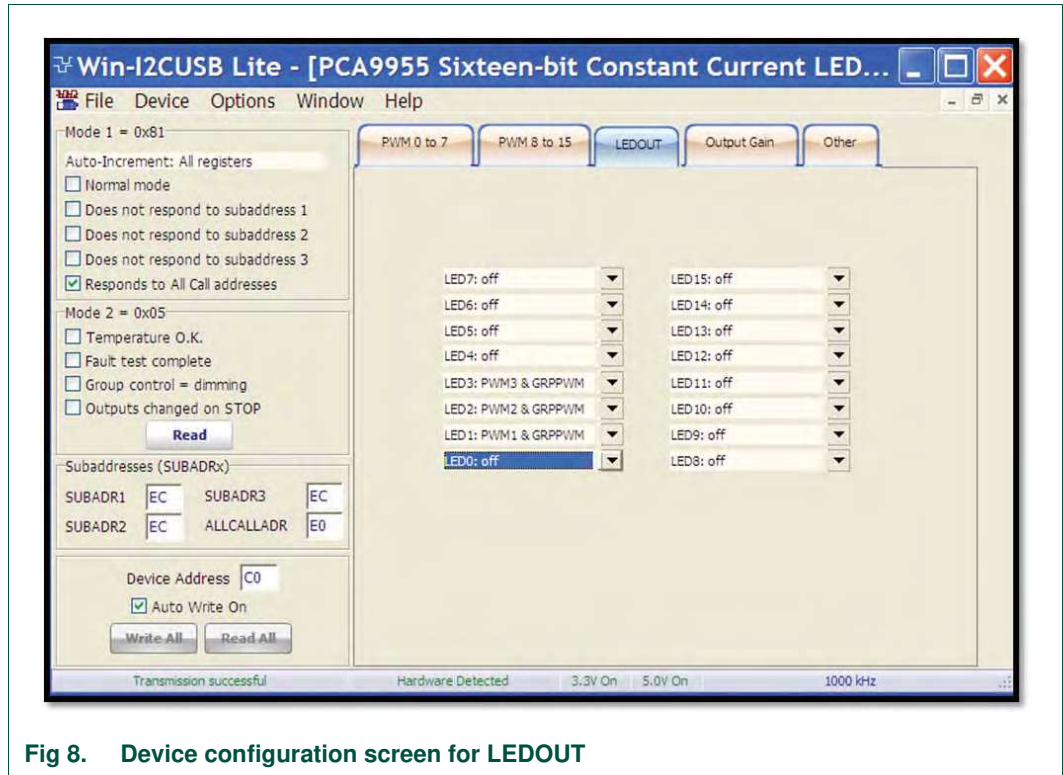

Fig 8. Device configuration screen for LEDOUT
- 'LEDOUT' LED driver output state for LED0 to LED15 as shown in Figure 8.
- 4. Click the 'LEDOUT' configuration screen and select 'PWMn & GRPPWM' for LED[1:3] (see Figure 8).